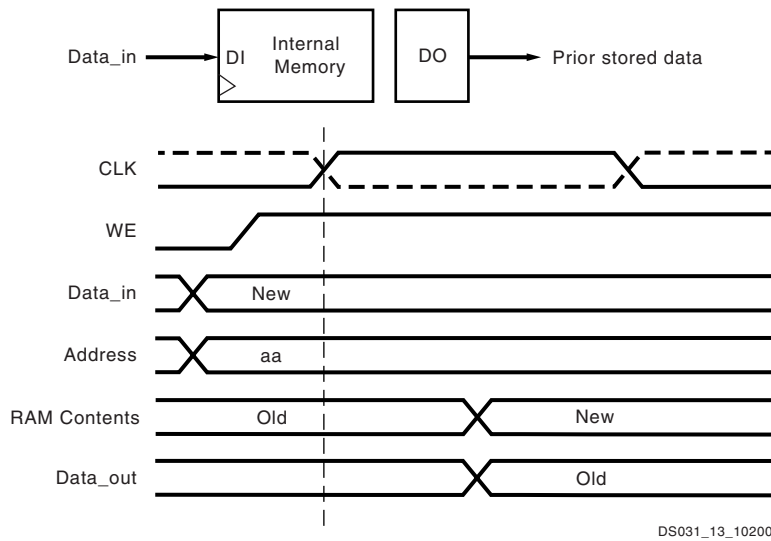

Figure 33: READ\_FIRST Mode
The READ\_FIRST option is a read-before-write mode. The same clock edge that writes data input (DI) into the memory also transfers the prior content of the memory cell addressed into the data output registers DO, as shown in Figure 33.